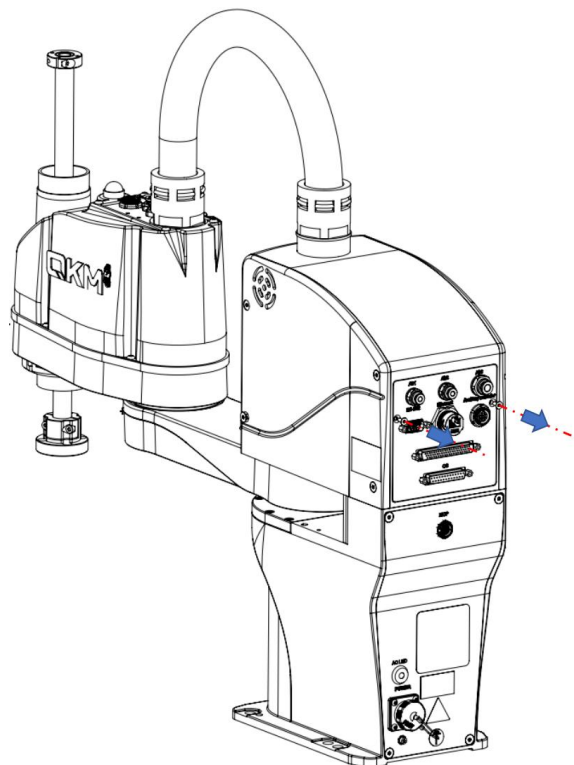

Figure 4-10 Removal of upper control cabinet interface panel
**Step 1** Use 2.5 mm Allen wrench to remove the screws from the upper control cabinet interface panel of the robot, as shown in Figure 4-10.